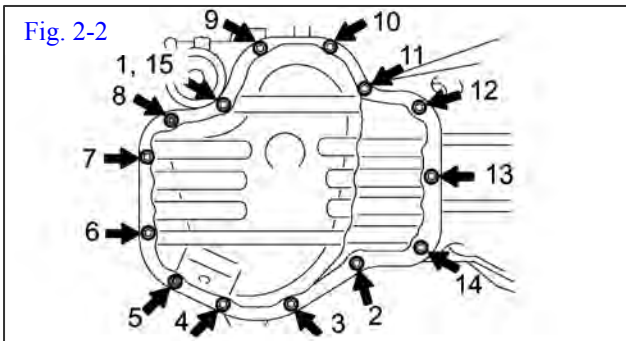
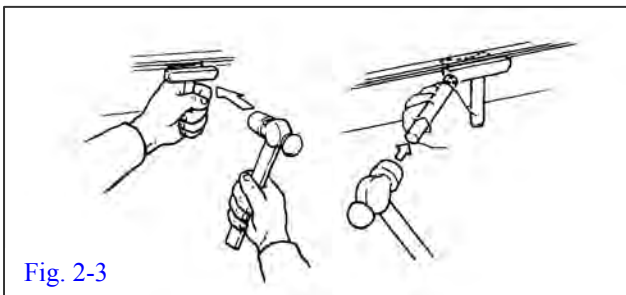

Fig. 2-2
Fig. 2-3
- (c) Remove the oil pan by removing the 12 bolts and 2 nuts. (Fig 2-2). Use SST **09032-00100** to remove pan from crankcase. See Figure 2-3.
- (f) Uniformly tighten the fasteners on the oil pan in the sequence shown in Figure 2-2. **Torque to 80 in-lbs.**